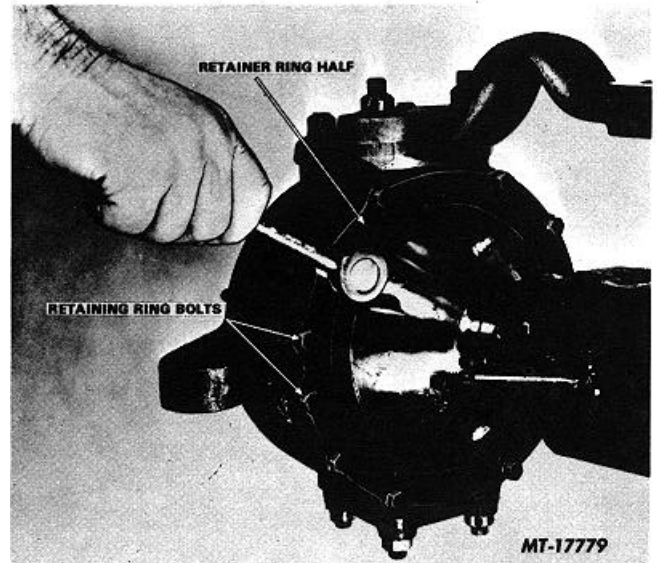

Fig. 3 Removing Retaining Ring Half (Halves) Mounting Bolts
3. Remove retaining ring half (-halves) mounting bolts and lockwashers from back side of trunnion housing (Fig. 3).